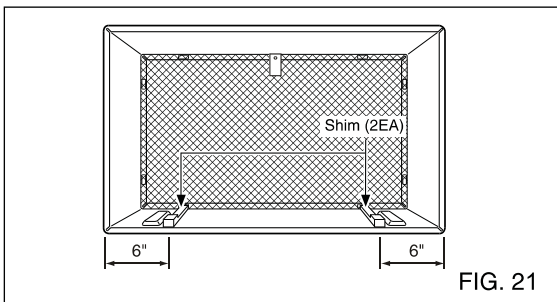

FIG. 21
- 7** To achieve rearward slope for unit draining, remove the backing from the $11^{3/16}$ " shim strips and attach them as shown below in Fig. 21. The higher portion of shim is to be placed in front of the rib on the base of wall sleeve.